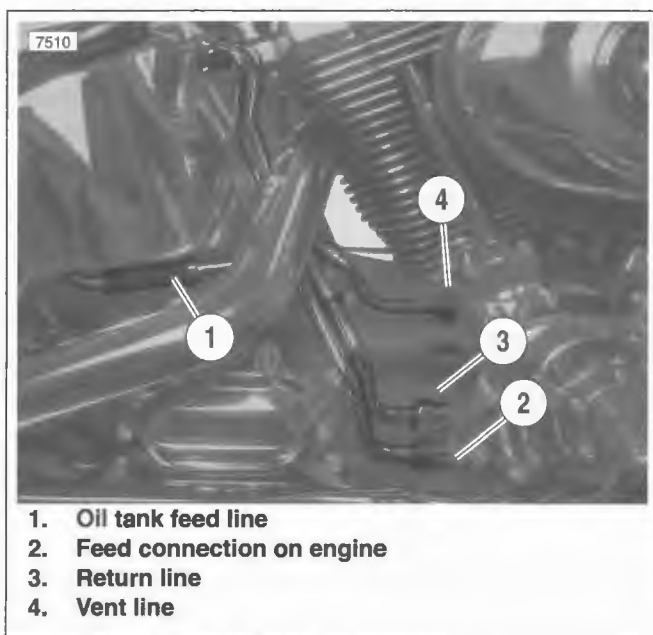

Figure 3-1. Oil Flow From Tank
See Figure 3-1. Oil flows from the oil tank feed line (1) to the engine feed connection (2) at the rear right side of the crankcase.
The oil flows through a passageway in the crankcase and exits the upper fitting at the rear right side of the crankcase (A38). See Figure 3-1. Passing through a flexible hose connection (3), the flow of oil runs returns to the oil tank.